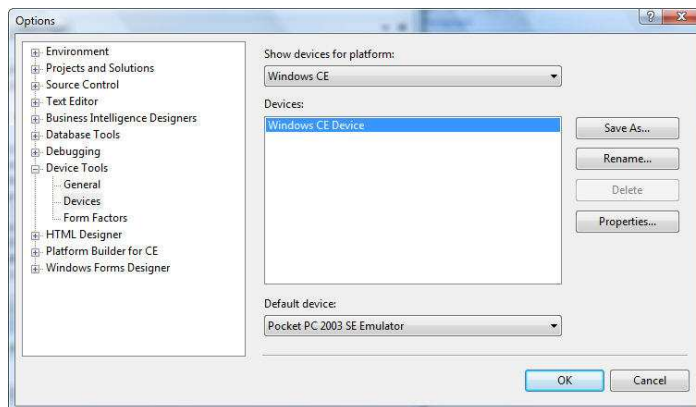

Fig. 55 - VS2005 Tools Options
- From VS2005 IDE, select **Tools | Options...** to bring up the following configuration screen, as shown in Figure 55.